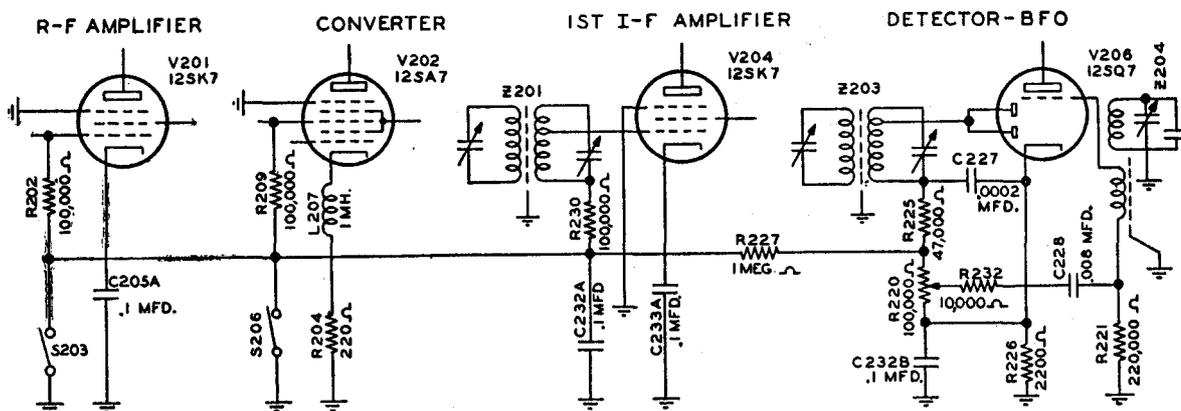

Fig. 10. A.V.C. Circuit (Dwg. 500 0143 00A)
2.3.10.1. Refer to Figure 10. The AVC voltage is applied to the grids of three tubes in the receiver, the r-f amplifier, V201, the converter, V202, and the first i-f amplifier, V204. A portion of the negative voltage that is developed across the load resistors, R225, R220, and R226 of the detector is utilized to control the output of the receiver. The filter consisting of resistor R227 and capacitor C232A, filters out the audio component of the voltage that is applied to the grids. A combination of series and shunt feed is employed. The r-f amplifier and the converter tubes are shunt fed through resistors R202 and R209 and the